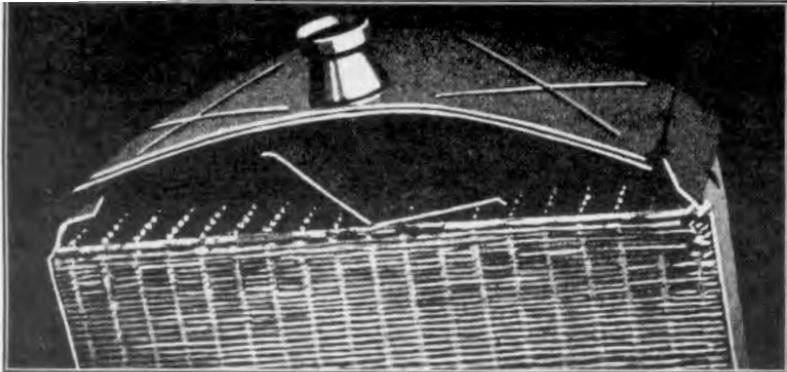

Fig. 418
- 836** To remove the top tank top by the second method, remove the front or rear wall as described in Pars. 824 or 829. Cut through the top with a hack-saw about one inch above the top and header joint, stopping at the flange of the remaining wall (See Fig. 418). Heat the joint between the top and the wall and brush off the solder as it flows out. Hit the top a sharp blow with a hammer at the corners, formed by cuts, to break it loose under the flange.